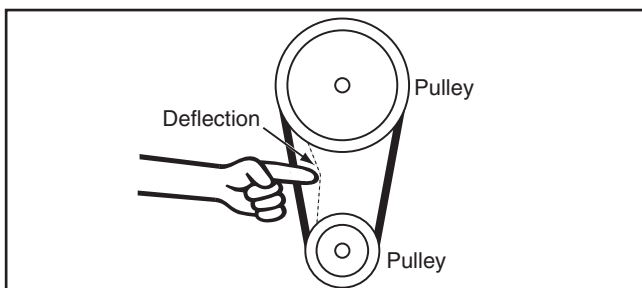

Figure 124. Checking belt deflection.
7. Check the belt tension by pushing on belt in the center, as shown in **Figure 124**, and noting the amount of deflection.